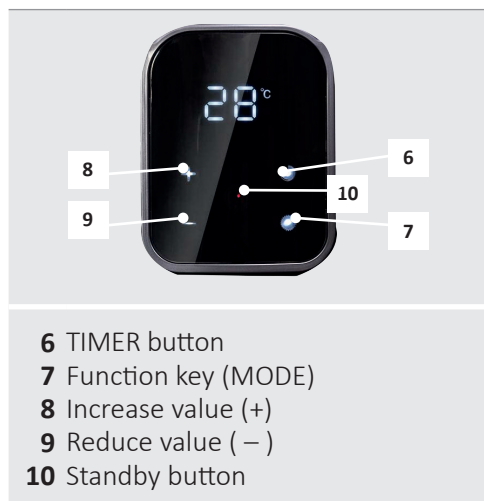

Fig. 3: Device labelling
3. Press the **standby button** (see Fig. 3, No. 10), the display will light up and the appliance will start automatically at **the highest setting (P3)** and show the set temperature.
- 4a. Press and hold the MODE button (Fig. 3, No. 7) to switch between temperature units (Celsius/Fahrenheit).
- 4b. Briefly press the MODE button (Fig. 3, No. 7) to switch between the heating levels. The heating levels are divided as follows (see Table 2):
1. Press the **standby button** (see Fig. 3, No. 10). The appliance starts automatically at the highest setting (P3).
2. Press the **MODE button** (see Fig. 3, No. 7) and use the “+” and “-” buttons (see Fig. 3, No. 8 and 9) to set your desired temperature. You can choose between 10°C and 35°C.
1. Press the **TIMER** button (see Fig. 3, No. 6). „OH“ appears on the display.
2. Use the “+” and “-” buttons (see Fig. 3, Nos. 8 and 9) to set your desired time. You can choose between 1 hour and 9 hours. After 5 seconds, the display will show the ambient temperature and the set timer again.
1. The appliance can be switched off by pressing the standby button (see Fig. 3, No. 10), but remains in standby mode (e.g. for short heating breaks during the day).